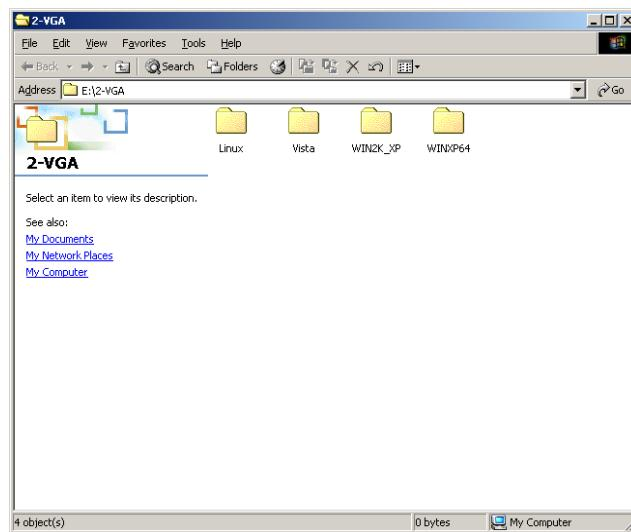

Figure 7-7: Select the Operating System
Step 17: A new window opens (**Figure 7-7**).
Step 18: Select the operating system from those shown in **Figure 7-7**.